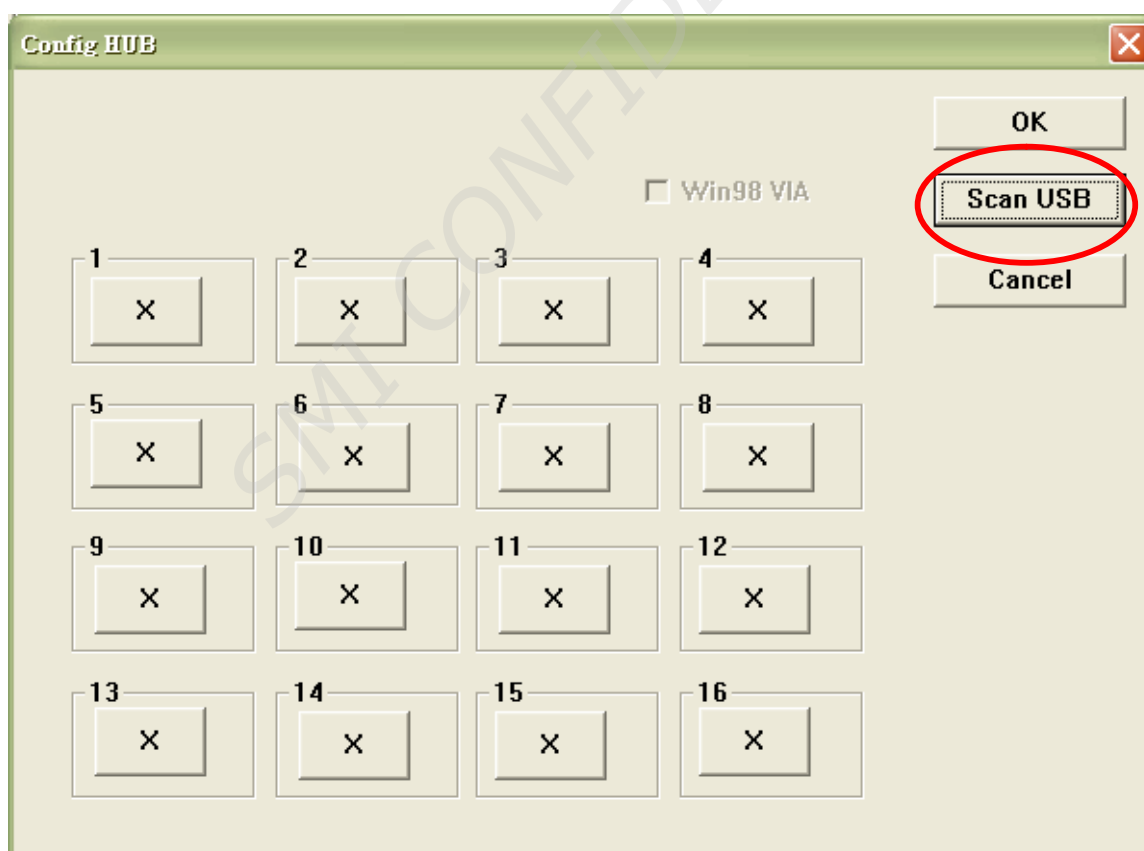

Fig. 6 The process of the first time to configuration in this condition.
Step 1、In the Fig. 6, if the configuration is the first time and the device port labels existed 「O」 or you want to reset the port mapping, press the 『Scan USB』 button without plugging any UFD to reset the configuration.